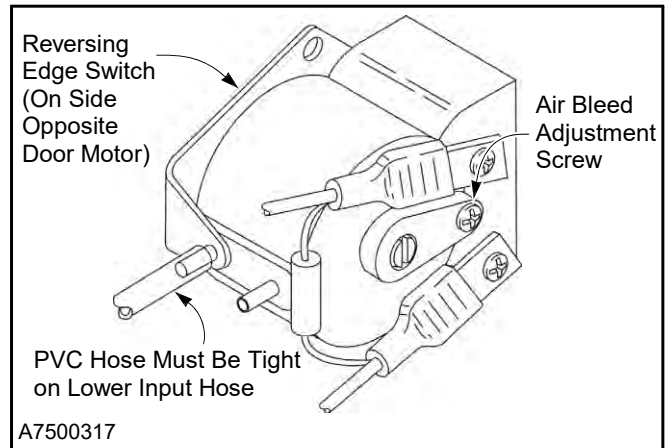

Figure 35
2. Make sure the clear PVC hose is in tight contact with the air input post so that air leakage cannot occur and that vibration will not cause the hose to fall off. Make sure the hose is not kinked. (See Figure 35)
3. The air bleed has been set at the factory and should not require adjustment. To check the air bleed, turn the air bleed adjustment screws located on the front and back of the switch fully clockwise, but do not overtighten. Then turn the screws counterclockwise one full turn. (See Figure 35)